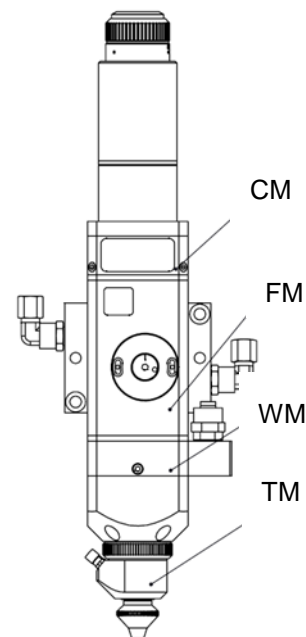
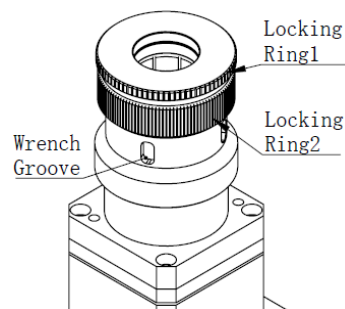

Figure 1 Cutting Laser Head Shown
Figure 5. Fiber Orientation
See Figure 1, a laser head contains 1) a collimation module CM, 2) a focusing module FM, 3) a protection window module WM, 4) a nozzle module TM.
Common fiber connectors include QBH, QD. Other connections are available too, such as 14, 24, 25, 30 mm grip rings (See figure 5). Each fiber connectors has its own unique method of securely attaching the fiber. Refer to the fiber type for specific instructions. QBH connector is illustrated in Figure 1.
- (1) See Figure 5, loosen locking ring 1 and 2.
- (2) Input the fiber connector horizontally
- (3) Tighten locking ring 1 and 2. Use a wrench if necessary.